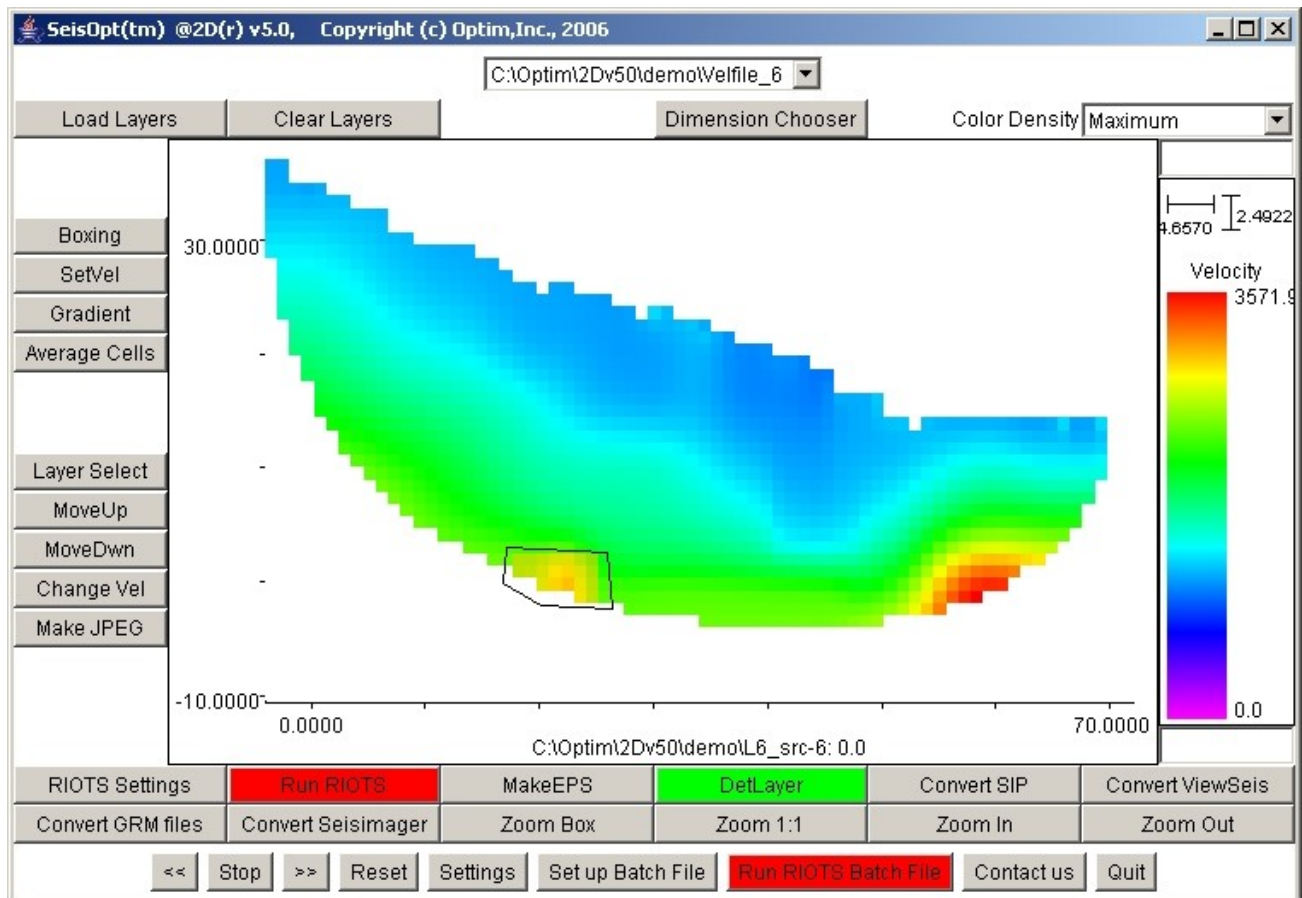

Figure 40b: Click on 'Tune Box' button and draw a box around the region to be tuned.
- Click on 'Tune Box' (the button labeling will change to 'Boxing') and draw any shaped polygon by clicking the left mouse button, around the area to be tuned (Figure 40b).